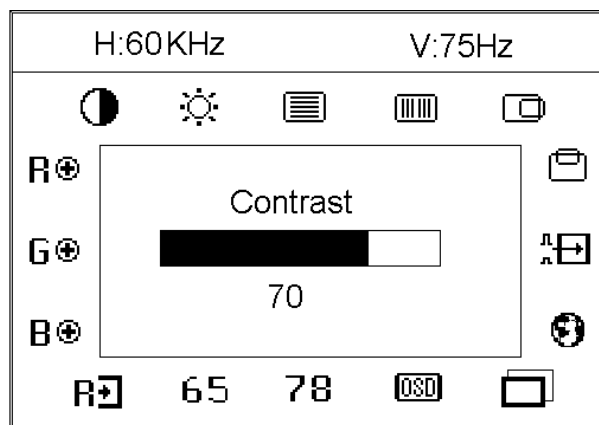

Figure 5 The OSD Message
1. Press the MENU-button to activate the OSD window. See figure 5.
2. Press ◀ or ▶ to select the desired function. See figure 5.